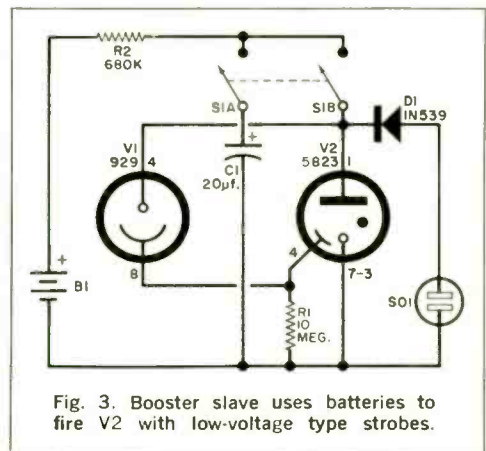

Fig. 3. Booster slave uses batteries to fire V2 with low-voltage type strobes.
**Booster Slave.** The second version of the Strobelight Slave shown in Fig. 3 provides supplemental voltage for the slave trigger tube when the capacitor charging voltage of the strobe is less